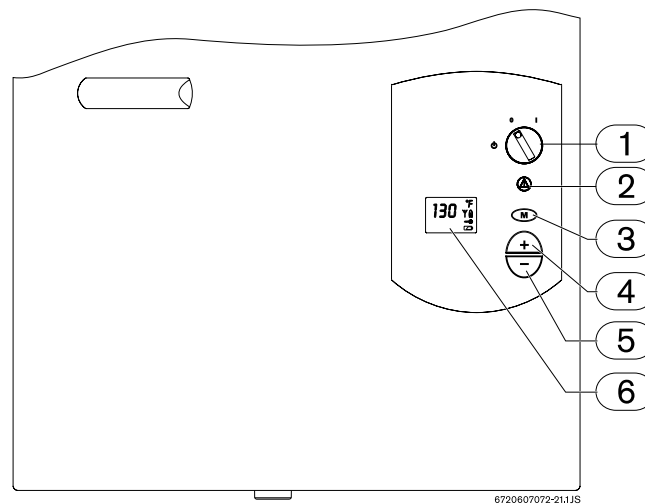

Fig. 26
- ▶ **2.** The gas valve must be shut off by putting the ON/OFF switch to position (0). Wait five (5) minutes to clear out any gas. If you smell gas, STOP! Follow "B" in the safety information above. If you do not smell gas, go to the next step.
- ▶ **4.** Set the ON/OFF switch to the (I) position. In this position, the water heater is ready to use.
NOTE: on a first time initial installation or after gas line work has been done, existence of air in the gas line will cause ignition delay when the hot water is turned on. This will result in an error (EA) on the units display screen. This is normal. When this occurs, leave the hot water running and wait 3-5 seconds, then reset the unit (Fig. 26, pos. 2). Wait for (EA) to disappear. The heater will begin to attempt ignition again, if the (EA) reappears then repeat this same process until all air has been bled from the gas line.